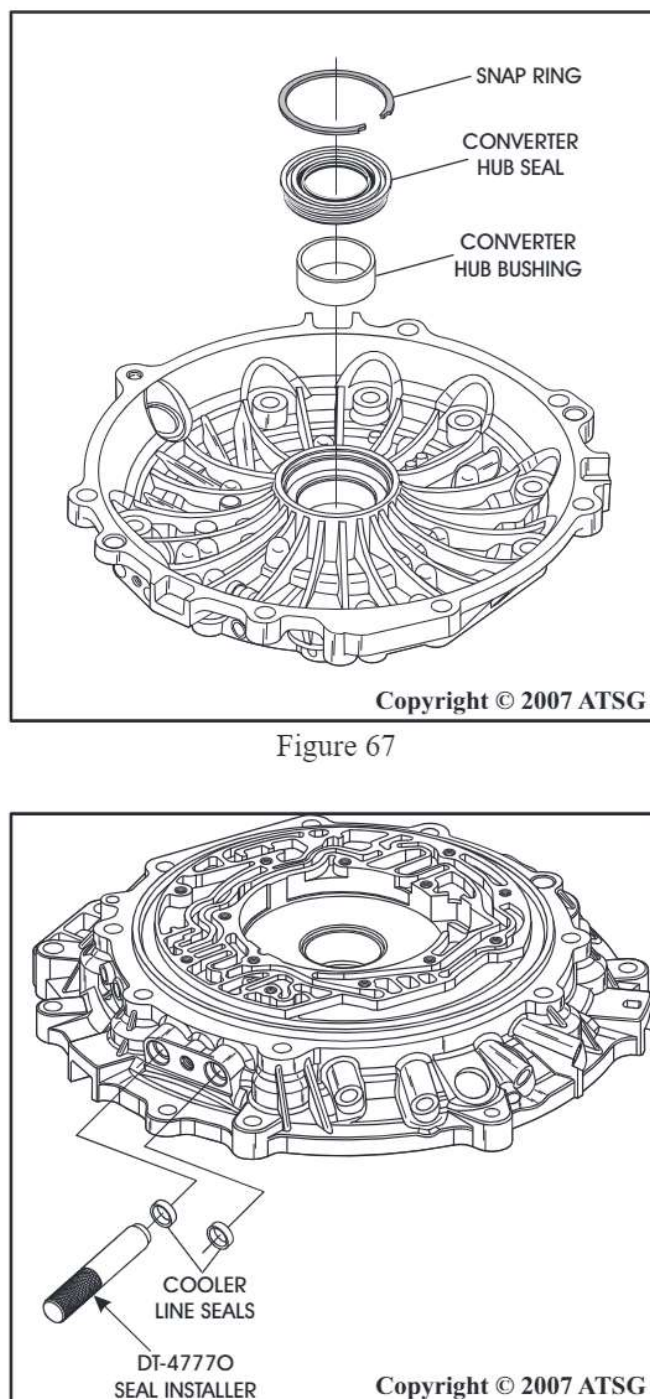

Figure 68
27. Install new cooler line seals into the converter housing, as shown in Figure 68, using the proper seal driver.